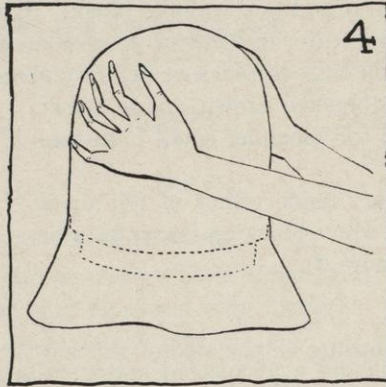

FIG. 4.
- a. Place the felt over the crown block and smooth it down as quickly and as gently as possible, working from the center tip towards the side crown (see Figure 4).